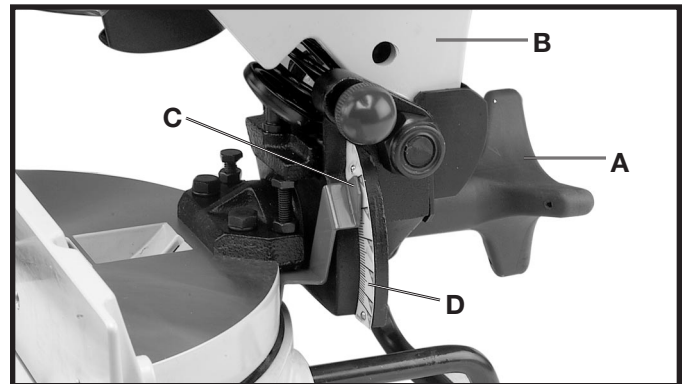

Fig. 19
The cuttinghead of your compound miter saw can be tilted to cut any bevel angle from a 90 degree straight cut off to a 45 degree left bevel angle. Loosen bevel lock handle (A) Fig. 19, tilt cutting arm (B) to the desired angle, and tighten lock handle (A).
Positive stops are provided to rapidly position the saw blade at 90 and 45 degrees to the table. Refer to the section of this manual titled **“ADJUSTING 90 AND 45 DEGREE BEVEL STOPS.”** The bevel angle of the cutting arm is determined by the position of the pointer (C) Fig. 19 on the scale (D).